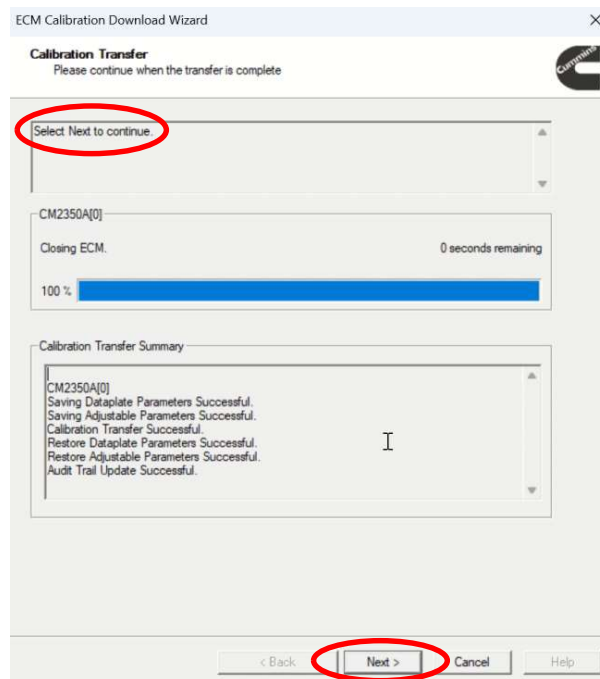

Figure 32
41. Select Next when the calibration is complete. See Figure 32.